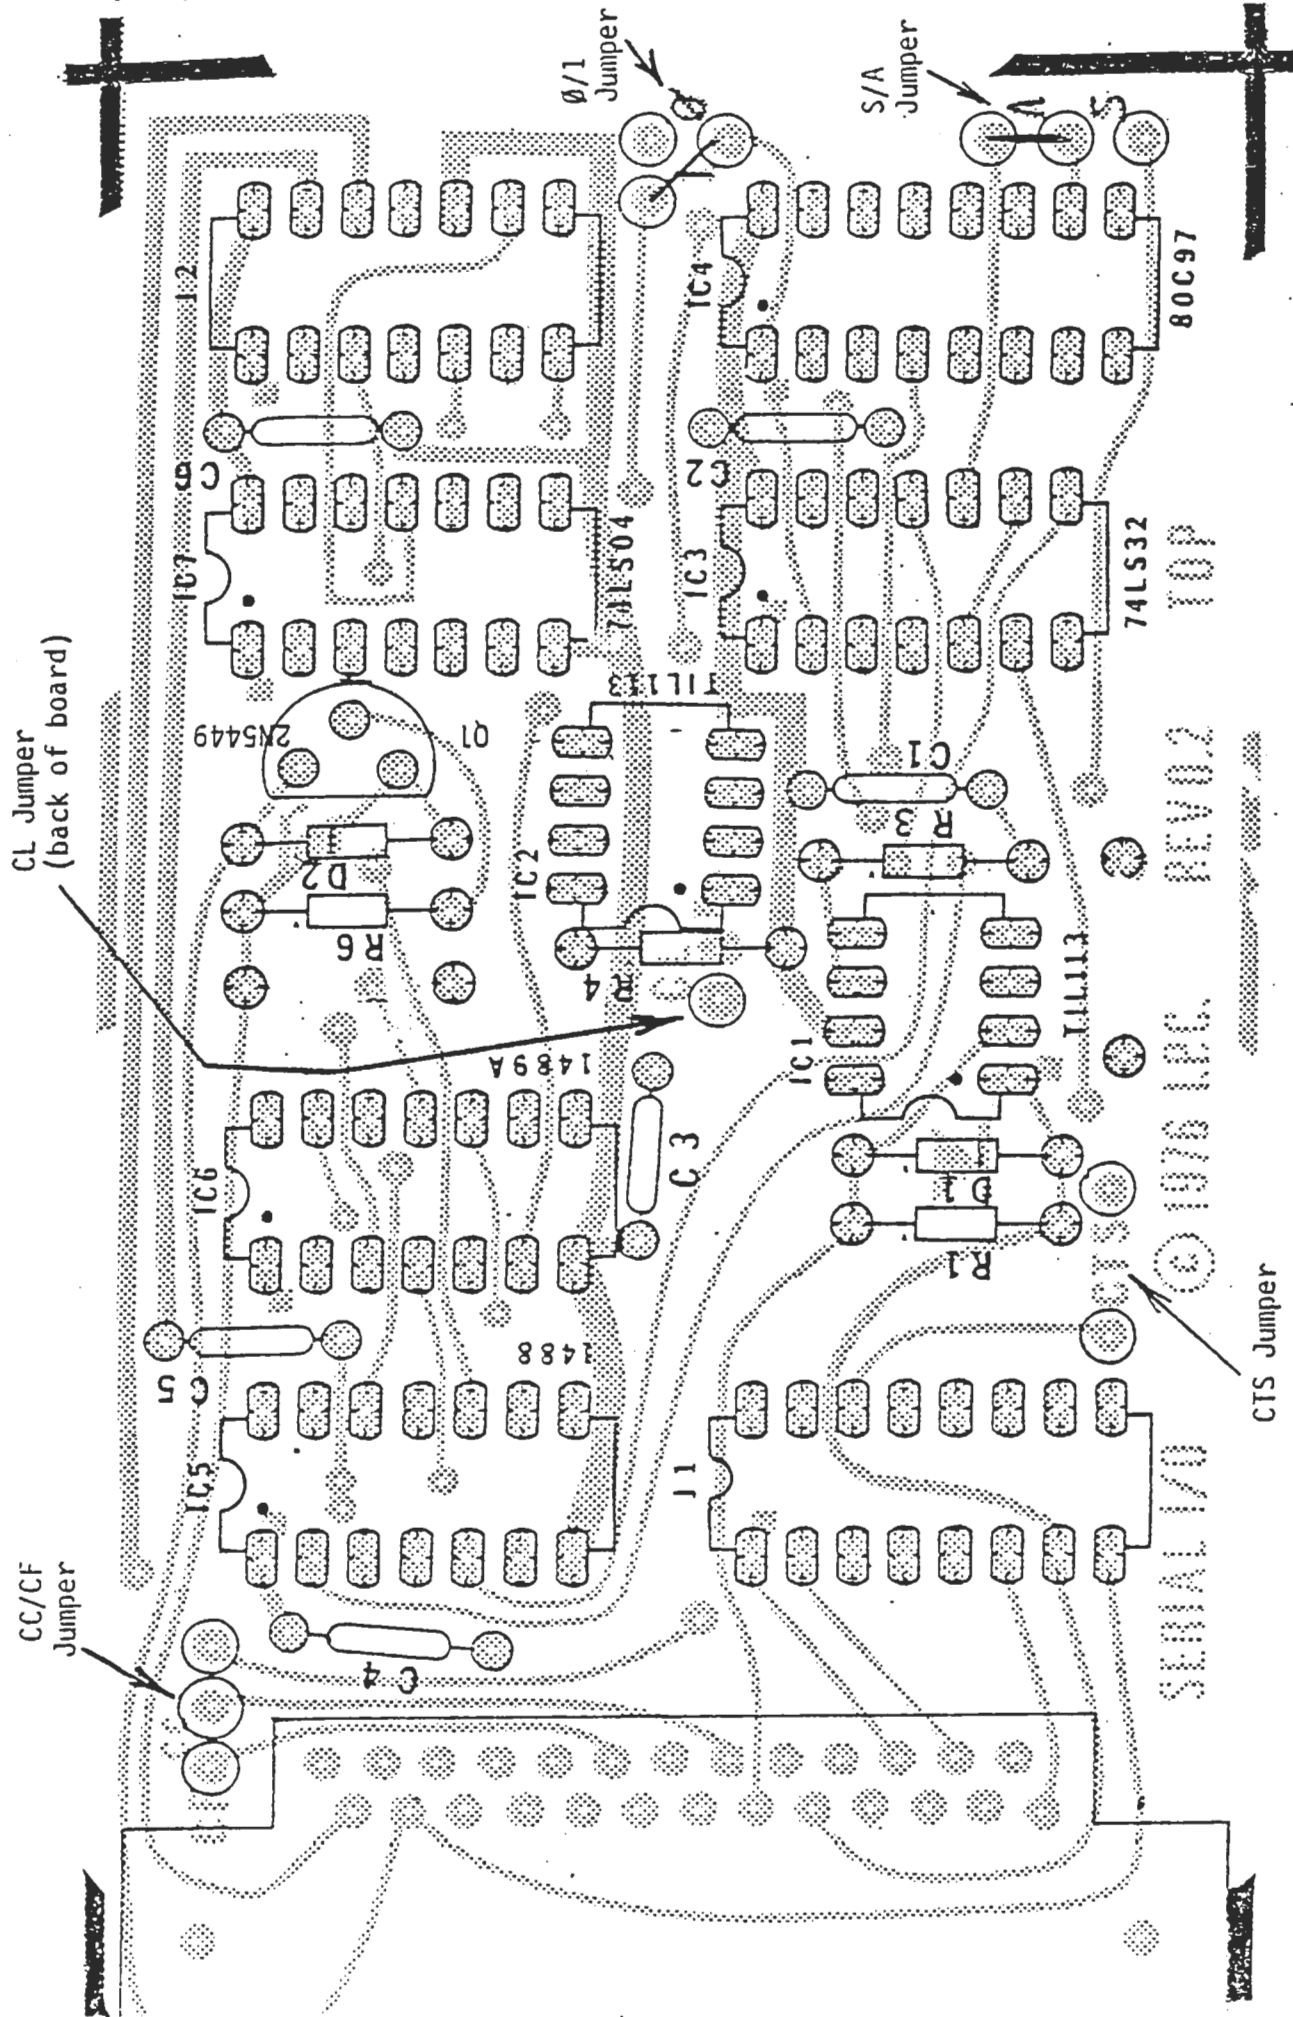

Figure A-5
1. Install all resistors; refer to the parts layout (fig. A-5).
( ) Note the circled pads in the S/A area on figure A-5. Install a wire jumper from the middle hole to the bottom hole (A)\*
( ) Note the CL area in figure A-5. These two pads must be jumpered together. One pad is concealed by R4; jumper on the back of the board.
( ) Note the circled pads in the S/A area on figure A-5. Install a wire jumper from the middle hole to the bottom hole (S).